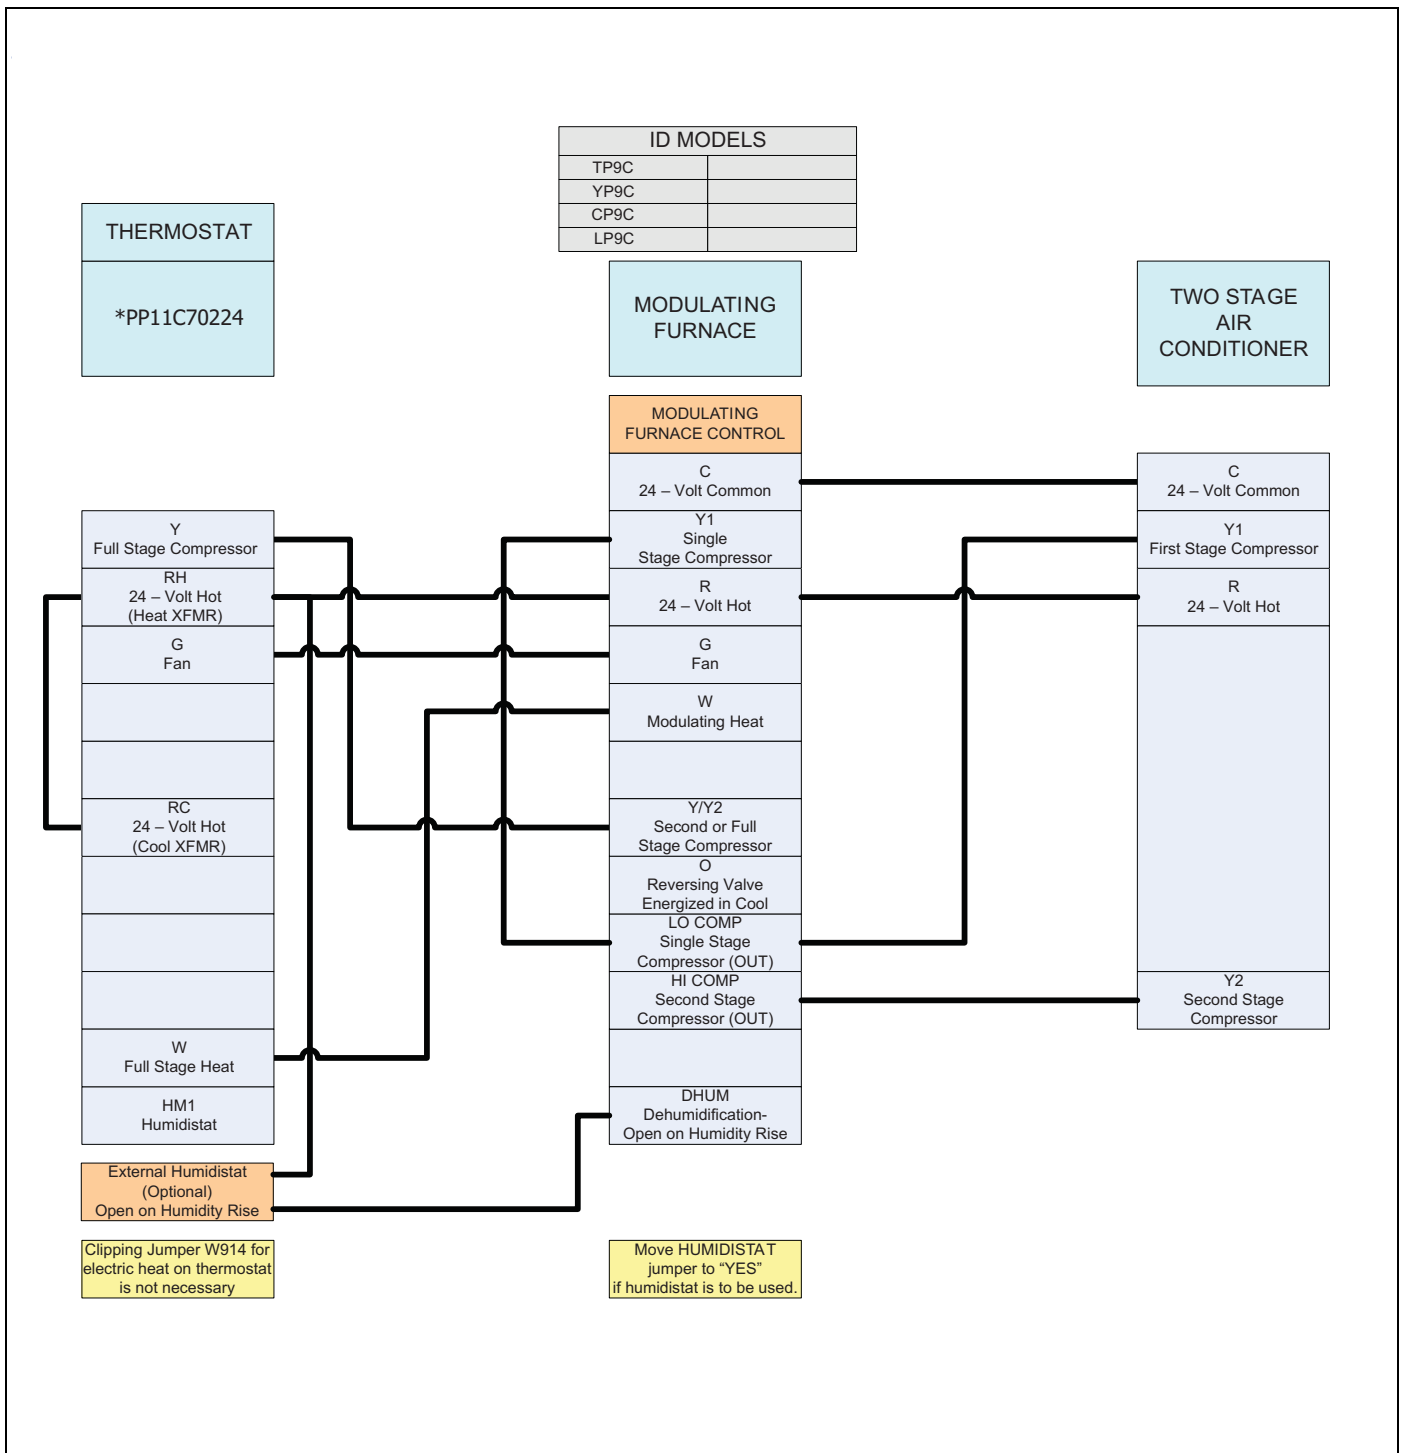

FIGURE 24: Thermostat Chart - Two Stage Air Conditioner with Single Stage Thermostat – Variable Speed Modulating Furnace
**For Two-Stage A/C using a Single-Stage Thermostat** - connect the low voltage wiring as shown in Figure 24.